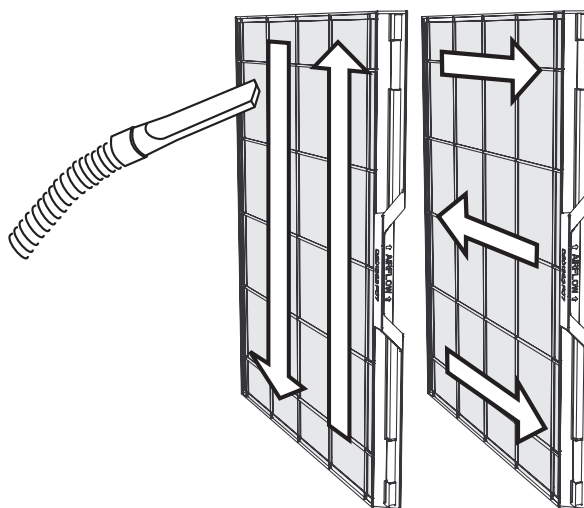

Figure 31 Vacuuming the Pre-filter
1. Using a vacuum hose, vacuum in even strokes across the length of the PRE-FILTER. After vacuuming the entire PRE-FILTER using even strokes going in one direction, repeat the process using even strokes going in the opposite direction as shown in Figure 31.